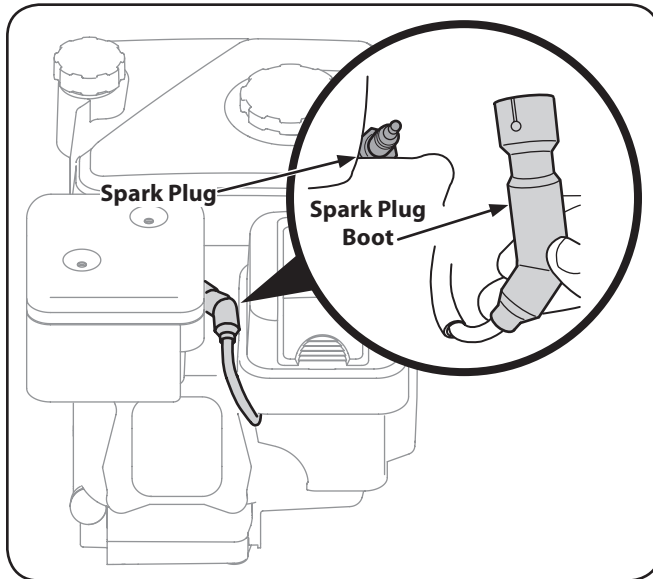

Figure 6-2
1. Carefully disconnect the spark plug wire and keep it away from the spark plug. Refer to Figure 6-2 for spark plug location.